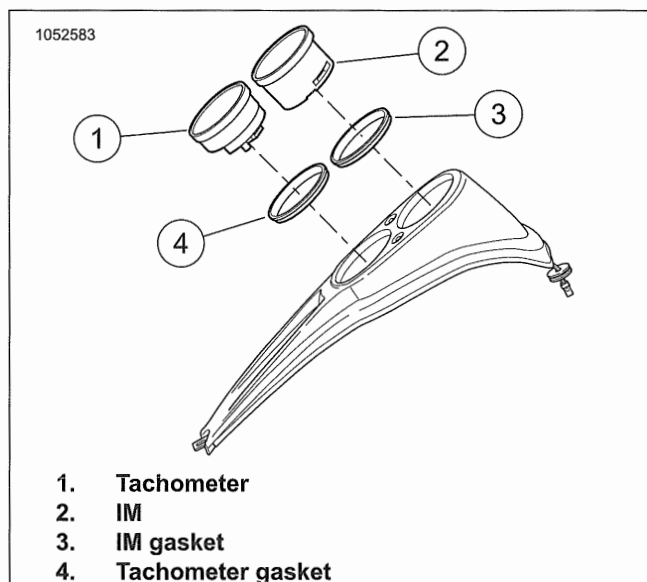

Figure 7-37. IM and Tachometer: FXLR
3. See Figure 7-37. Remove tachometer (1).
4. Remove tachometer gasket (4).
1. See Figure 7-37. Install tachometer gasket (3) on tachometer (2).